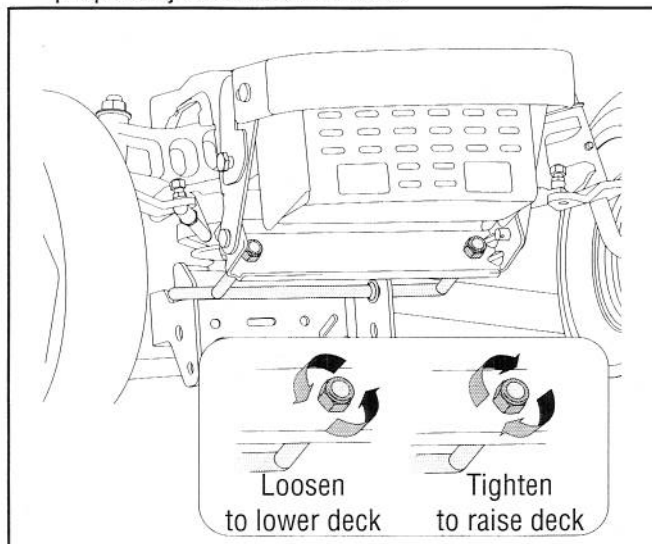

Figure 13
6. Locate the two lock nuts on the front side of the stabilizer bracket. See Figure 13. Tighten the lock nuts to raise the front of the deck; loosen the locknuts to lower the front of the deck.